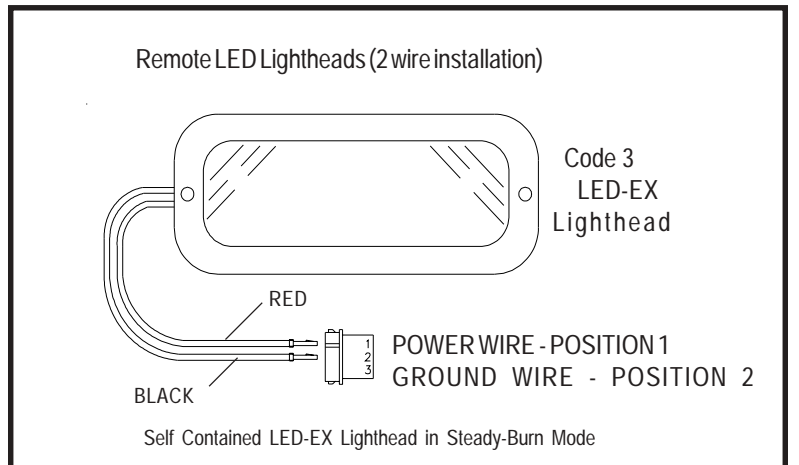

Figure8
- d) Insert pins into AMP connector # 1-480303-0 as shown in figure 8.